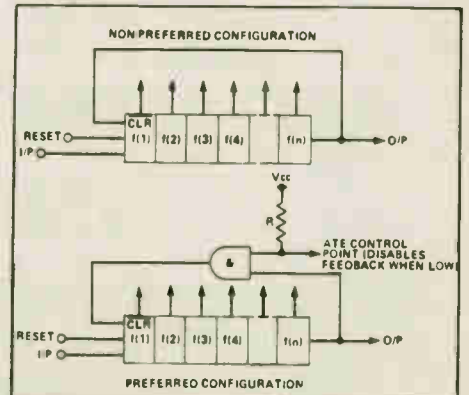

Fig. 8. Non-preferred and preferred sequential circuits.
Fig. 8 shows a simple sequential circuit, a counter or shift register for example, with and without testability built in. If appropriate test points have not been provided on power-up, all the memory elements f(1) to f(n) will be in an unknown state (an x-state). The output will be also be in an x-state. Without access to reset or preset, a 'homing sequence' would have to be provided by the tester. Further, if a fault existed, the failure could be observed at the output, but without the use of a guided probe routine and suitable test points, fault isolation would be impossible. This is a failure of observability or diagnostic visibility.